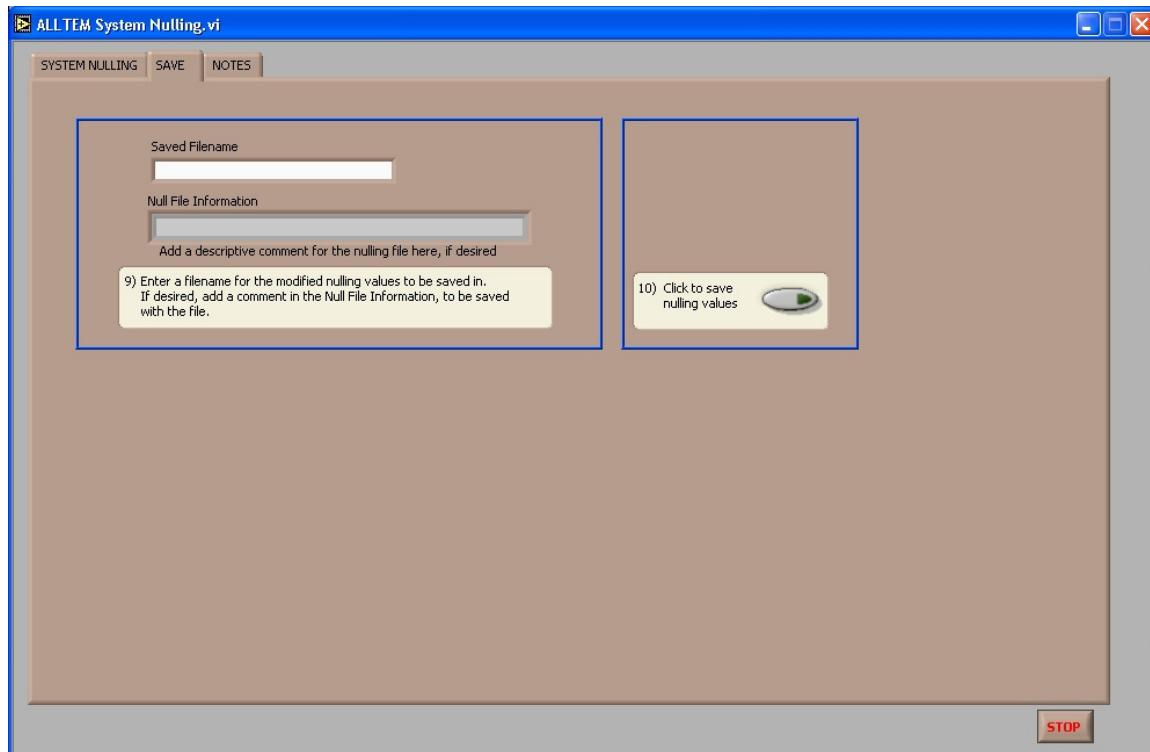

Figure 2.6. The SAVE tab with instructions.
Step 8: When all combinations have been nulled, go to the **SAVE** tab, Figure 2.6.